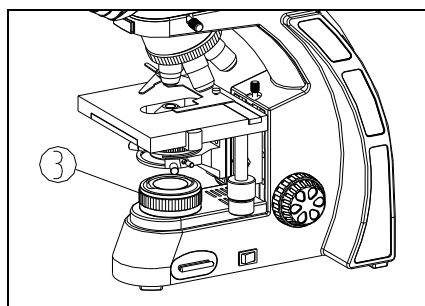

Fig. 2
4. When working, the surface of condenser will be very hot. Make sure there is enough room for the heat dissipating around the condenser ③ (see Fig. 2).